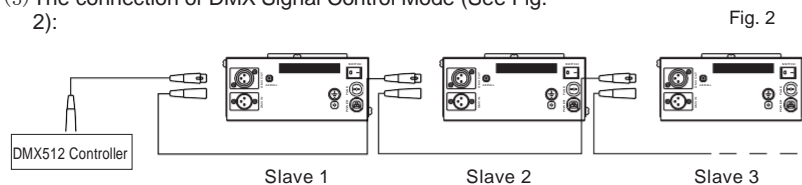

Fig. 2
- ① If you need Master/Slaves to change color synchronously, please set all of slaves into "001";
② If you need Master/Slaves to chase to change color, please set slaves into "009", "017" and so on (add "8" one after another) .
(3) The connection of DMX Signal Control Mode (See Fig. 2):